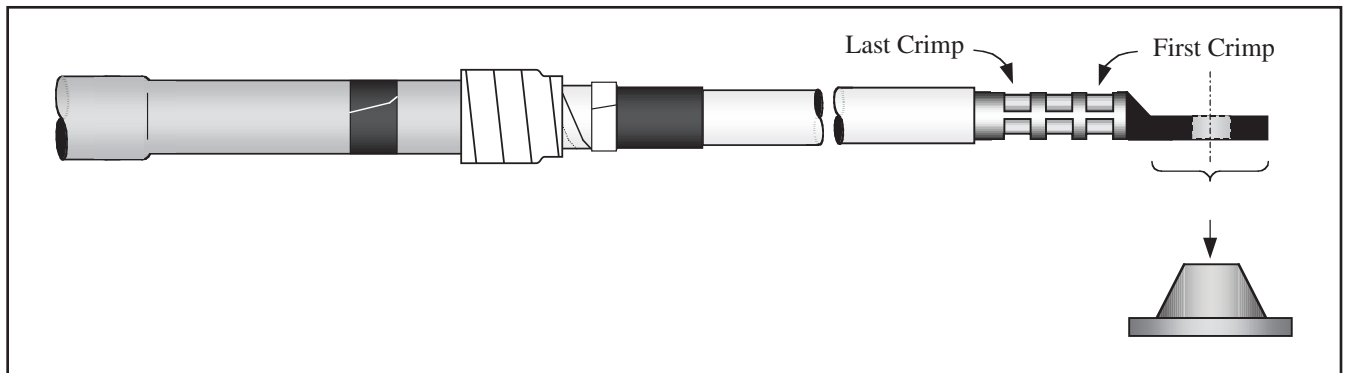

Figure 14
- (b.) Ensure that each lug face is parallel to equipment bushing or lug connection interface (Figure 14).
- (c.) Crimp terminal lug according to manufacturer's recommendations. Start at the upper end as shown (Figure 14). Remove all traces of oxide inhibitor that may have come out of lug barrel during crimping.